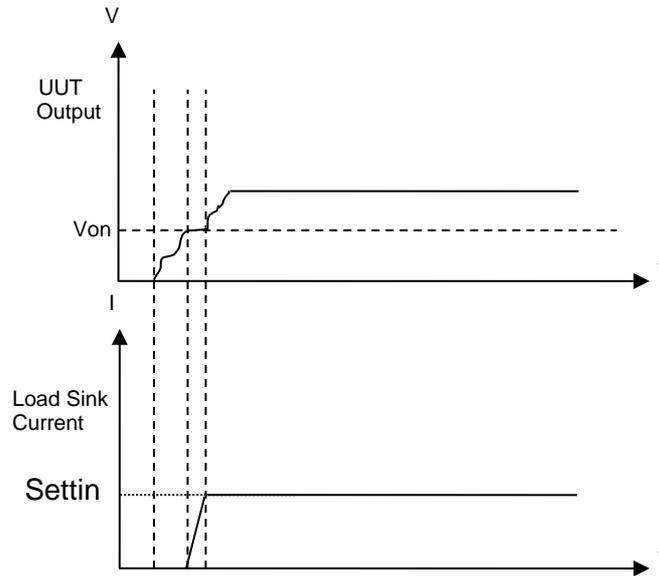

Figure 3-19 When Von Point is set to 0V with Protection
- (2) When it is “LOAD ON”, Von Point is set to 0V and Von Protection is enabled, the DC Load starts loading when the external voltage exceeds the protection voltage. No overshoot will occur under this condition as Figure 3-19 shows.